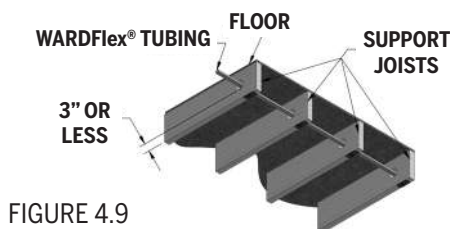

FIGURE 4.9
- E. Should an unfinished ceiling (i.e. basement) be covered at a later date, the quarter striker plates, shown in figure 4.9 and 4.10, should be replaced with appropriate protection devices that provide adequate protection for potential penetration threats.
- F. Although figures 4.9 and 4.10 are acceptable, installation method 4.11 is preferred.